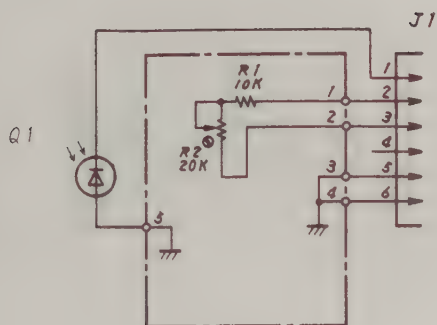

Fig. 6-13 Circuit Diagram of
- Fig. 6-13 : Circuit Diagram of MA913A/C Optical Power Sensor.